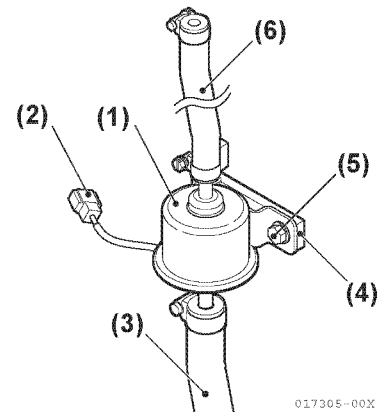

Figure 6-17
- 4JH4AE: Disconnect electrical connector (Figure 6-17, (1)).